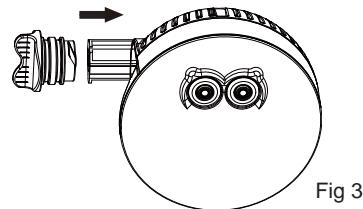

Fig 3
3. Reinstall the battery holder (2) into the LED light body according to the orientation (see Fig 3).